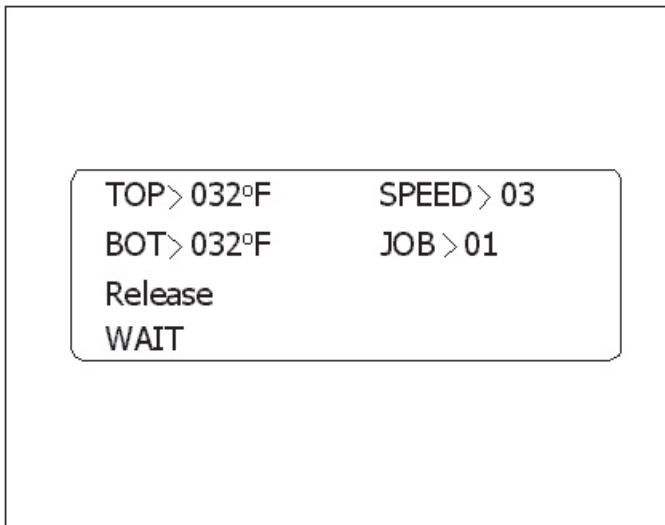

Fig 6
B. CONTROL PANEL DISPLAY: (Figure 6) Illuminates when the laminator is plugged in and **POWER ON/ OFF** is in the on, (I), position. Displays settings for top heater, bottom heater, speed, Job, mode and ready/wait/ positioning indicator.